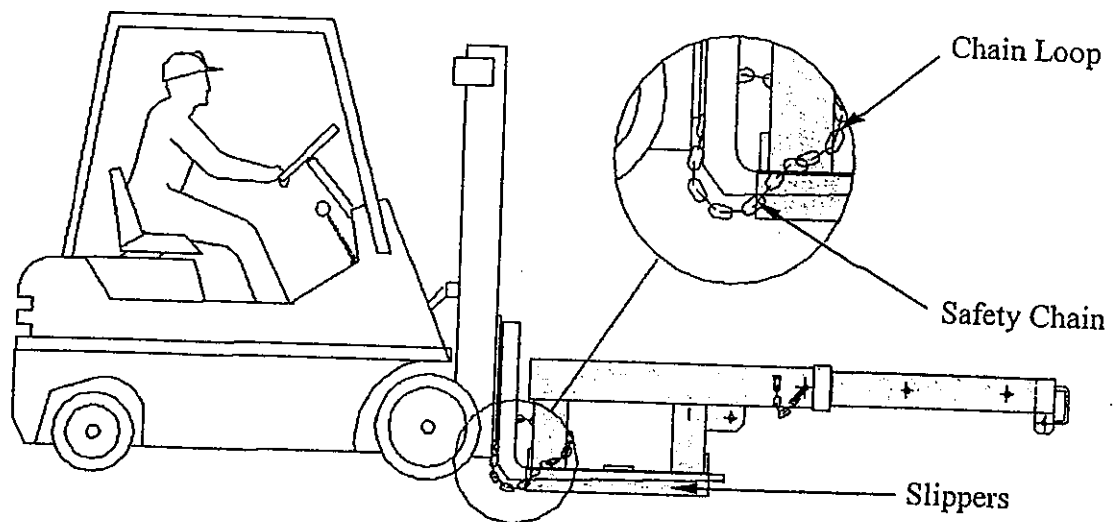

Fig. 3.1
To install the attachment, engage the forklift arm into the slippers as shown in Fig. 3.1. With the fork arm shank (vertical face) firmly against the rear of attachment, run the safety chain provided around the carriage or tower. Re-attach the chain to the chain loop at the base of the Jib.
- K) The Operator shall check the attachment is securely attached, refer *Fig. 3.1*.